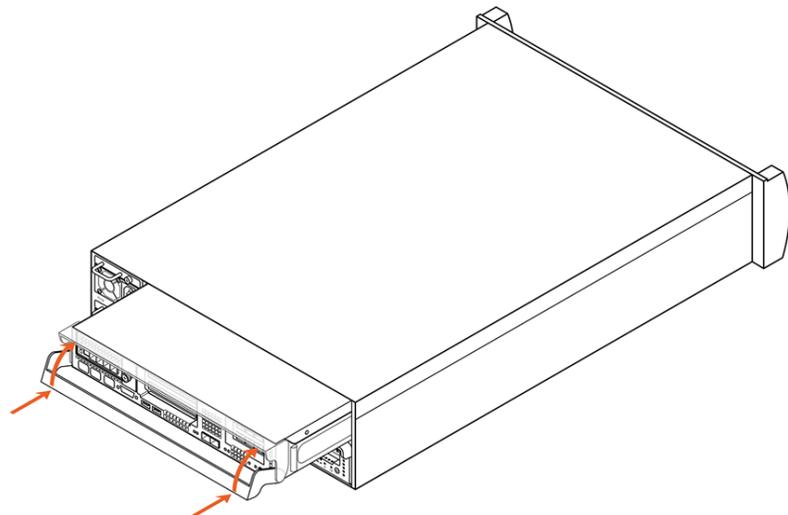

Figure 10-13. Reinstalling the Controller
4. Align the controller with the controller slot. See Figure 10-13.